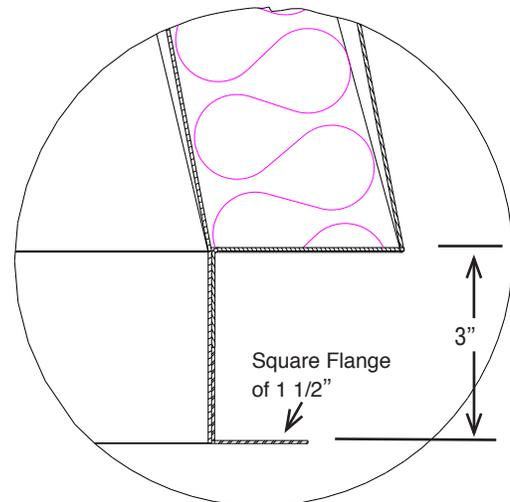

Figure 58b: Option 2 for the STR and ESTR
Option 2: A Flange at the square end to be used for a bolted or welded connection in accordance with NFPA 96. See **Figure 58b**.
- 2- Options for the square end (See **Figure 58a** and **Figure 58b**)